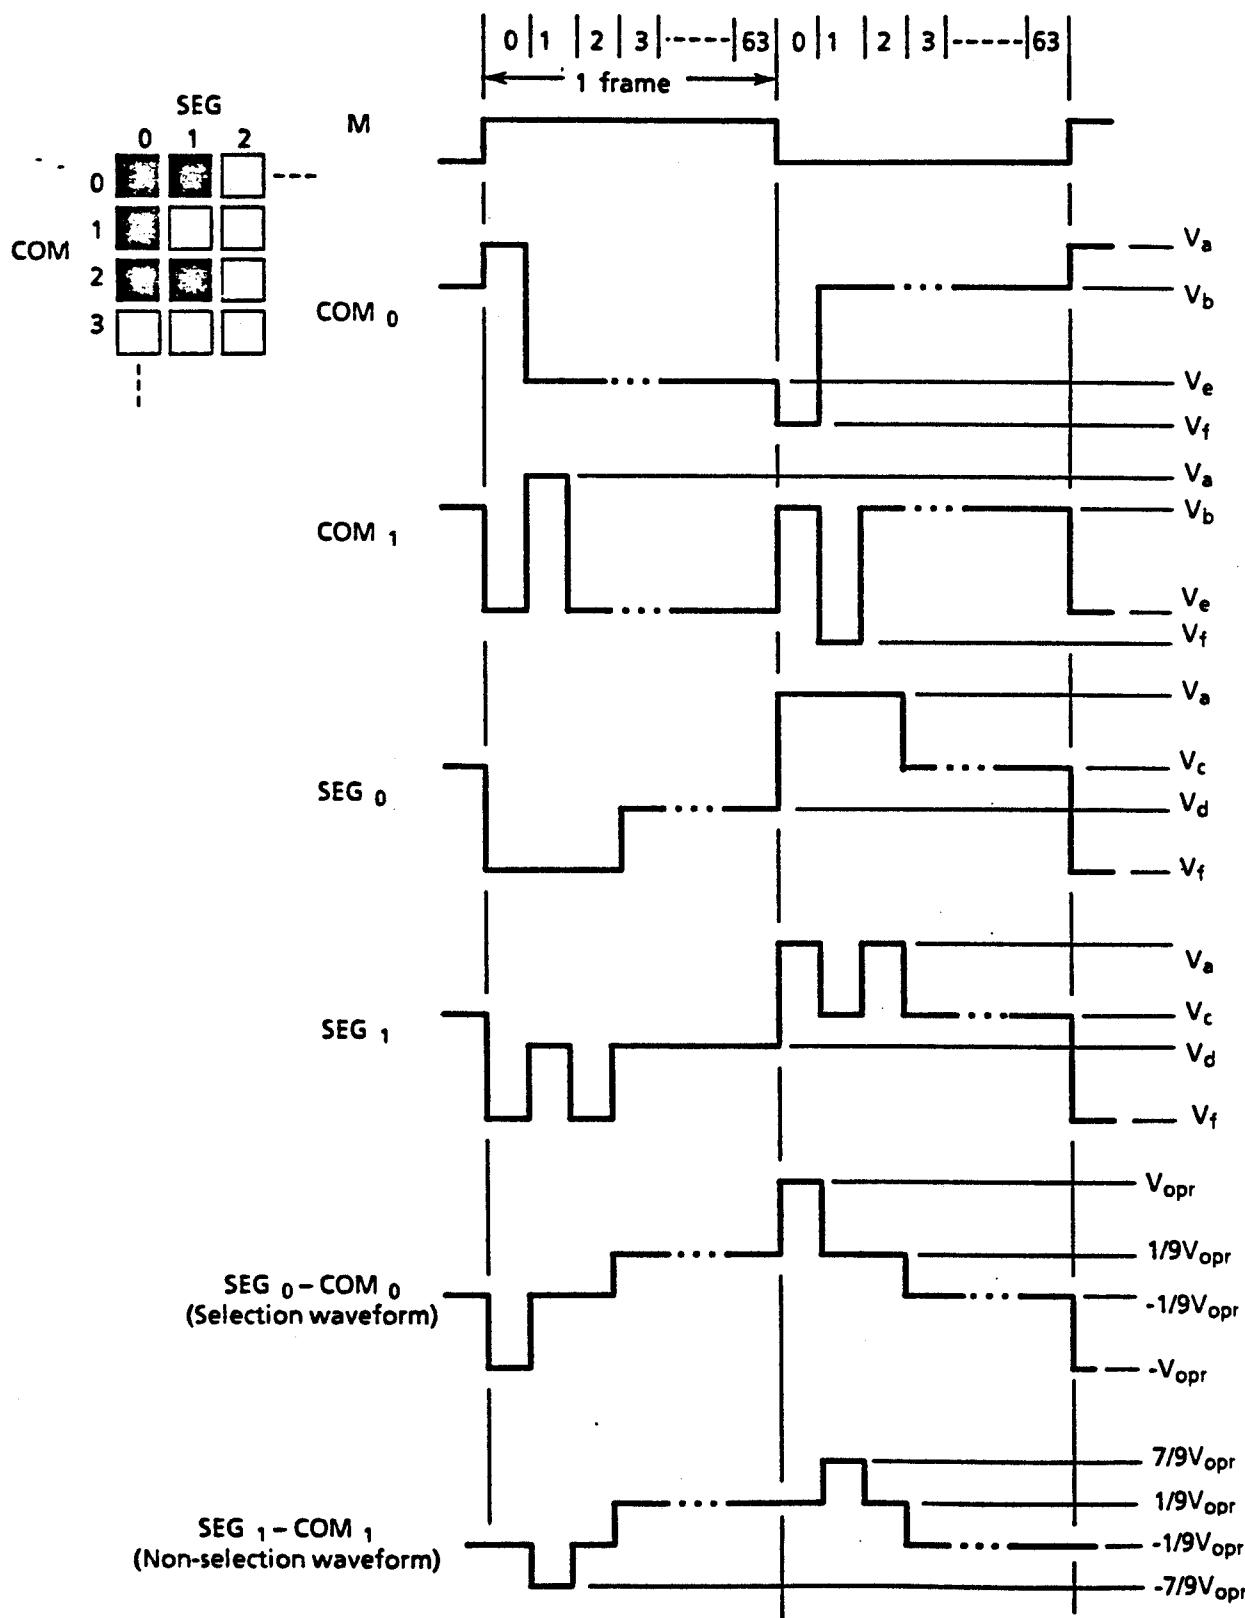

Figure 2 Drive waveform
The drive waveform of the LCD panel is shown in Figure 2 on the next page. Since DC may damage the liquid crystal, the drive waveform polarity is reversed at alternate frames, and AC is applied between two frames. The signal controlling this is the liquid crystal AC drive control signal (M). The frame frequency is normally set to about  $70 \pm 5$  Hz to prevent screen flicker.
The G2436 has a 1/64 duty cycle, and the common electrodes are selected within a frame by time division from electrode 1 to electrode 64. This is called line sequential scanning. The voltage level of the segment electrodes determines whether the dots at the intersection of the segment electrodes are selected or not, when the common electrode is selected. As shown in Table 1, there are six drive waveform voltage levels,  $V_a$  to  $V_f$ . The voltage level is determined by the bias value. The voltage between the segment and common electrodes is thus applied to the liquid crystal. The selection waveform for  $SEG_0$ - $COM_0$  and the non-selection waveform for  $SEG_1$ - $COM_1$  are shown in Figure 2. The size of the effective voltage of the waveform determines whether the liquid crystal under the selected dots is in the selection or non-selection state.